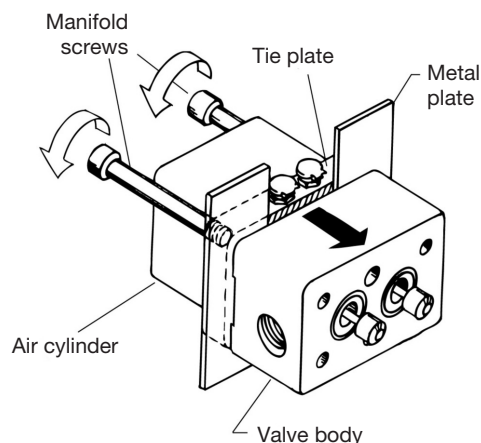

Figure 1
1. Remove the manifold and seat plate (8). Pry bar slots are provided.
2. Remove the air cylinder bolts (2) and wiggle the air cylinder apart. If the assembly is frozen, use the pry bar slots on the valve body (7) to separate the valve body (7) from the tie plate (5). Insert flat pieces of metal between the valve body and the tie plate as per Figure 1. Thread the manifold screws (36) into the back of the tie plate and push the valve body apart. Apply uniform pressure to prevent the body from cocking and bending the spool valves (75).